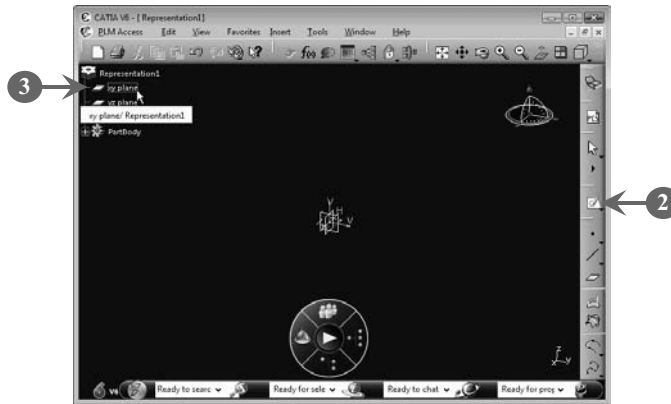

FIGURE 5.80
2. Click the **Sketch** button on the **Sketcher** toolbar to draw the boundary curve for the desired fill surface (**Figure 5.80**).
3. Select the ***xy-plane*** option in the specification tree to invoke the Sketcher workbench with the *xy-plane* as the sketching plane, as shown in Figure 5.80: